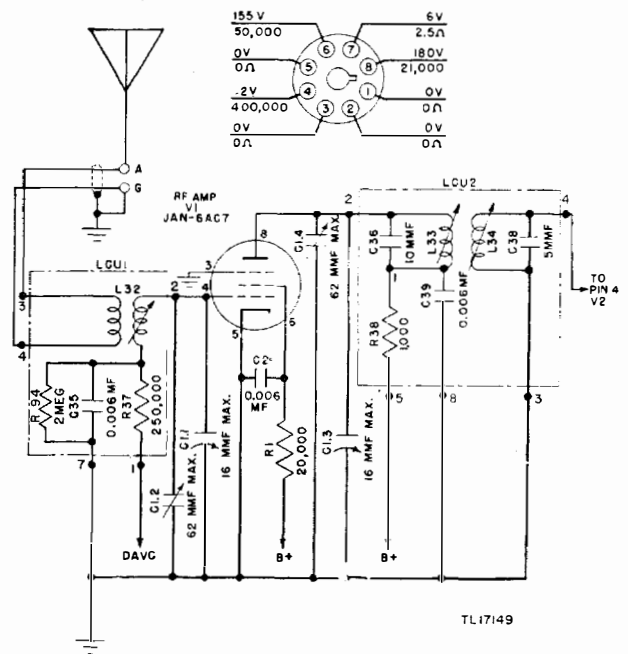

Figure 25. Radio Receiver BC-603-(*), radio frequency amplifier, V1—schematic diagram.
32. Parts List for R-f Amplifier Stage, VI (fig. 25)